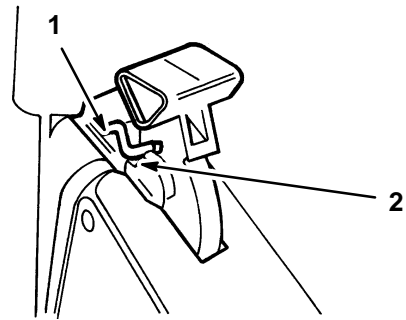

Figure 37
5. Pull the handle rearward until the handle latch locks in the notch in the bag door latch (Fig. 37).